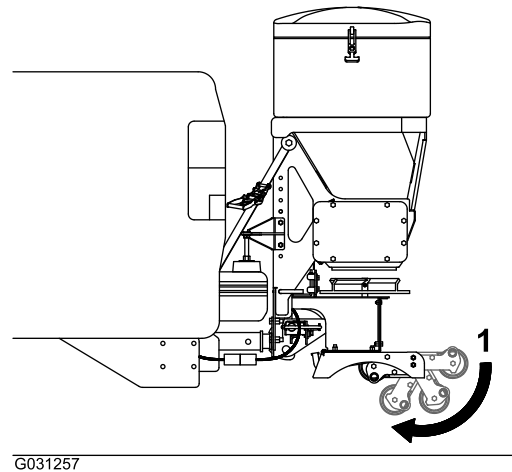

Figure 14
11. Step on the leg-assembly wheels to pivot them and stow them under the leg assembly (Figure 14).